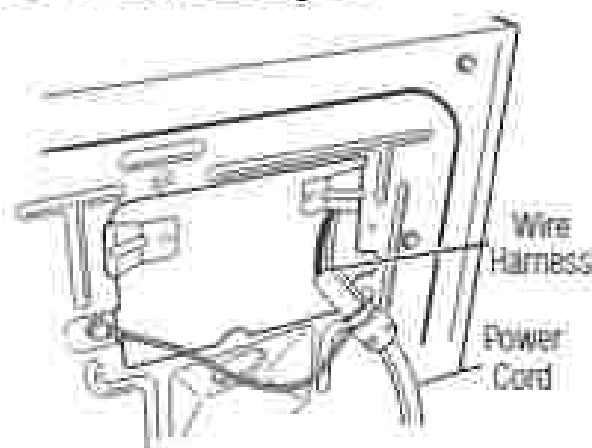
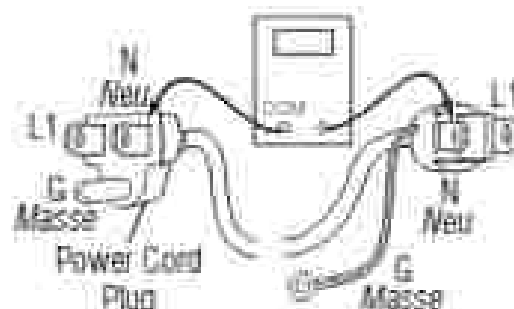

Figure 4 • Power cord-to-wire harness connection for gas dryer.
Figure 5 • Power cord terminals, gas dryer.
3. Check that the power cord is firmly connected to the dryer's wire harness. See figure 4.
5. With an ohmmeter, check for continuity between the neutral (N) terminal of the plug and JS-3 (white wire) on the ACU. The left-hand side of figure 5 shows the position of the neutral terminal (N) on the power cord plug. Also see figure 2, page 3-9.
- If there is no continuity, disconnect the white wire of the main harness from the power cord at the location illustrated in figure 4. Test the continuity of the power cord neutral wire as illustrated in figure 5. If an open circuit is found, replace the power cord. Otherwise, go to step 6.
- If there is no continuity, check the continuity of the power cord in a similar way to that illustrated in figure 5, but for power cord's L1 wire.
10. Using Figure 5 and the strip circuit below, check for the resistance values of the motor's Main and Start winding coils as shown in the following table.